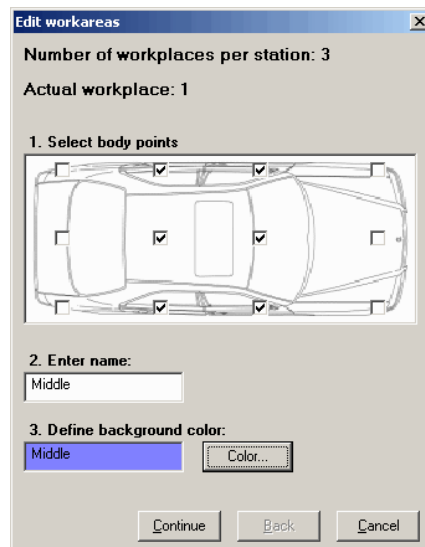
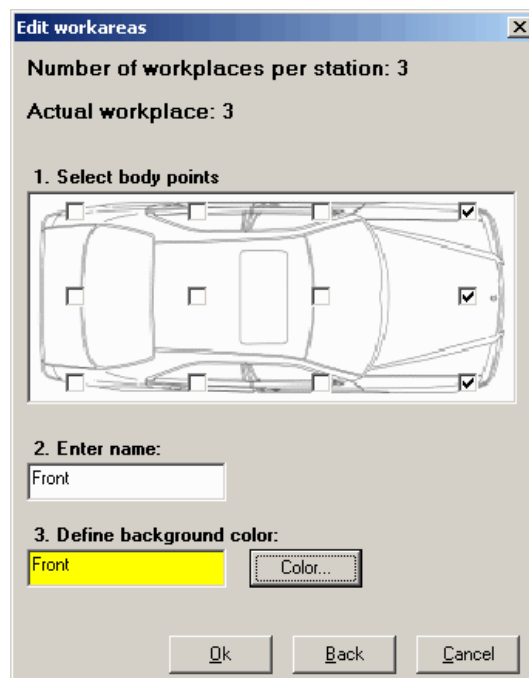

Figure 105: Example of First Workplace
Figure 108: Example of Third Workplace
In the **Work areas** dialog, each workplace is defined. You have to specify work positions (there are three in the example) for each workplace. A balancing process cannot be calculated unless each work position offered (*Please refer to the Figure 105*) has been enabled at the last workplace at the latest.
Use checkmarks to specify the work area. *Please refer to the Figure 105.*
- 1) To specify the work positions, checkmark the fields in **Select body points**. (Please refer to the Figure 105).
- 4) Click **Continue** in the dialog to define the next workplace. Please refer to the Figure 105.
This is due to potential overlapping of work positions. Continuing with this example, you could also now assign work positions to workplace 2 that had previously been assigned to workplace 1 (Please refer to the Figure 105). Workplaces that have not yet been assigned a work position will not be displayed until the last work position has been reached. Please refer to the Figure 108.
- 7) You will have to assign these three unassigned **work positions**. **Workplace 3, Front** area, is assigned these positions. *Please refer to the Figure 108.*